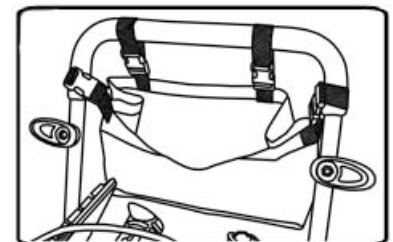

Figure 7
- 1) Install the storage bag to the transport handle using the retaining clips as shown in Fig.7.